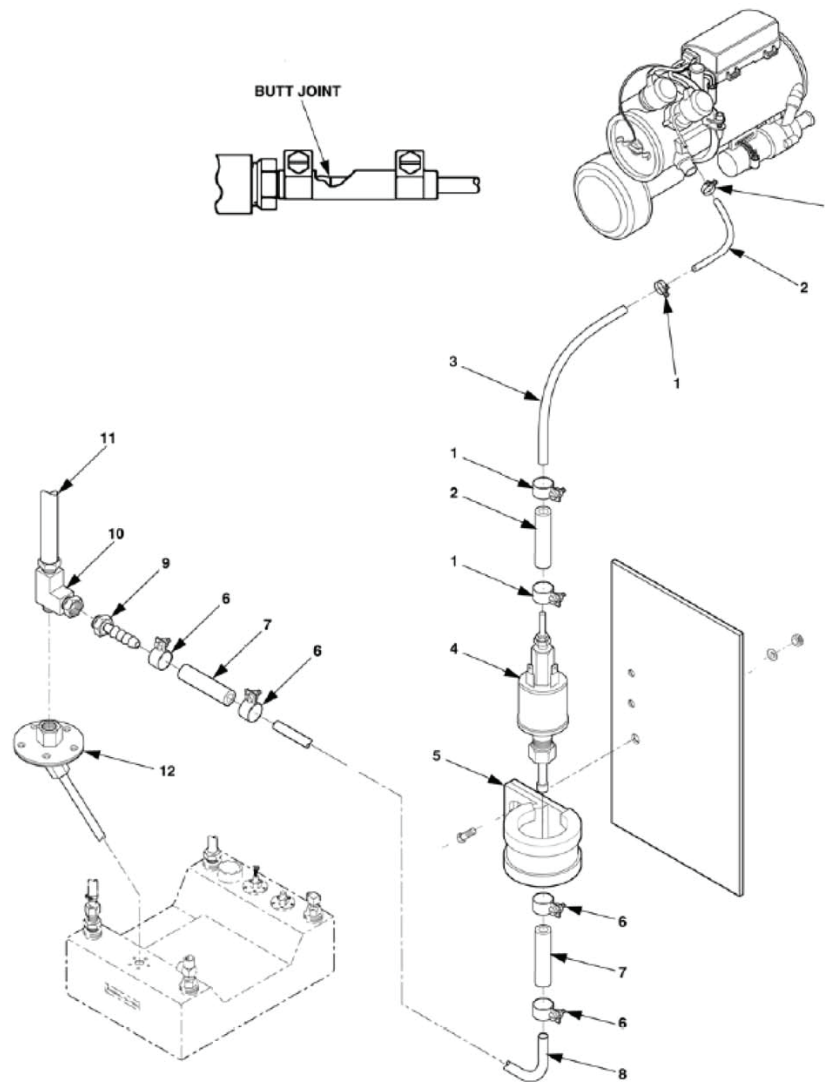

Figure 6. Fuel System Assembly.
- g. Disconnect generator fuel supply line (Figure 6, Item 11) from fuel pickup tube assembly (12). Attach tee fitting (10) to fuel pickup tube assembly (12) and attach generator fuel supply line (11) to top of tee fitting (10).